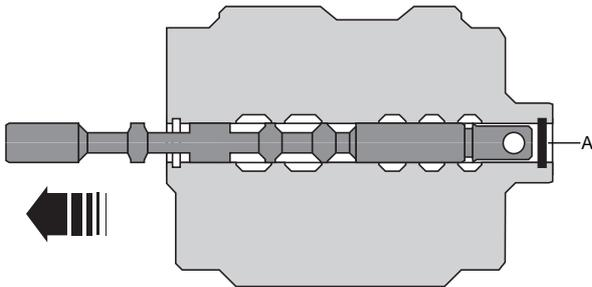

Fig 169.
- 1 ⇒ Fig 169. (E-208). Lubricate the spool, bore and O-ring groove with JCB Hydraulic Fluid. Move the spool to the position shown and then install the O-ring **A** in its groove.